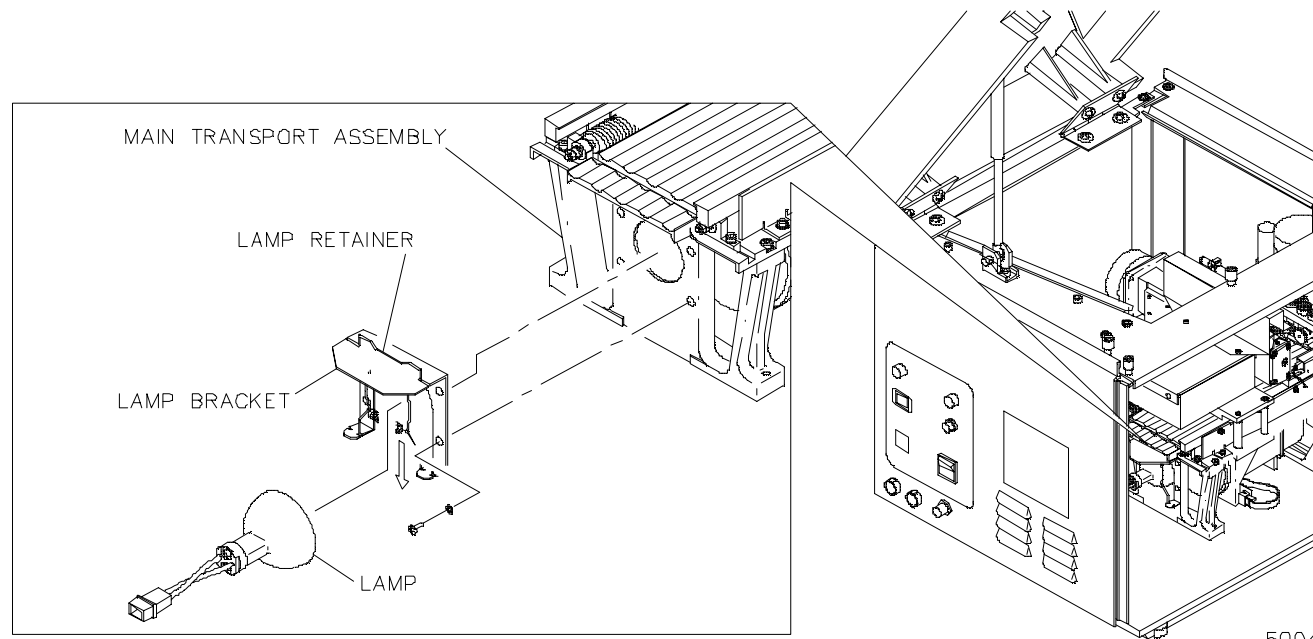

Figure 4-45. Optics Lamp Bracket
6. Remove Optics Lamp from Lamp Retainer (**Figure 4-45**).